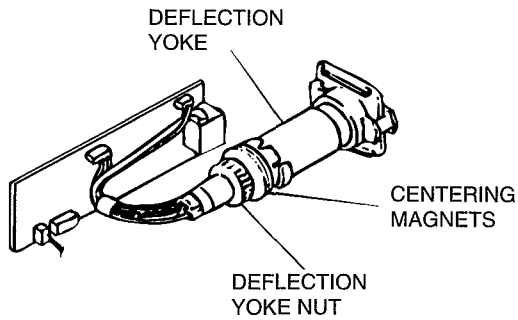

Fig. 2-52
(1) Deflection Yoke Position, EVF Centering Adjustment (Fig. 2-52)